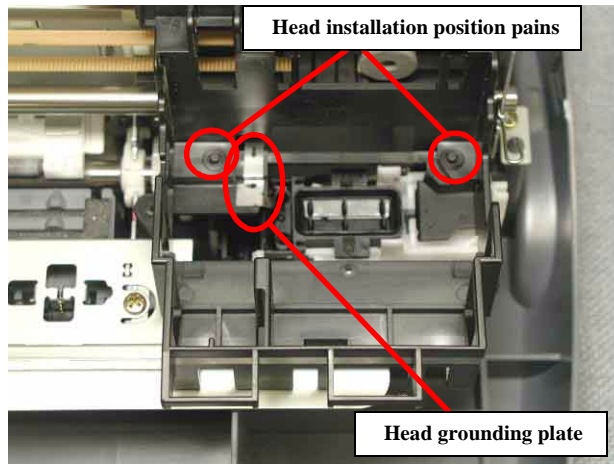

Figure 4-7. Printhead installation position (pin & the grounding plate)
- Make sure to fit two holes of the Printhead to the installation position pins correctly. (Refer to Figure 4-7)
- If you remove the Printhead from the CR unit, make sure that the Head grounding plate is set in the CR unit. (Refer to Figure 4-7)